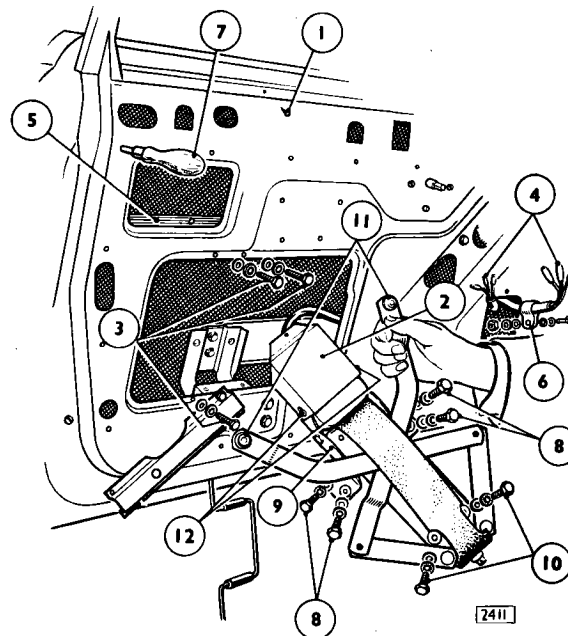

Fig. 65. Removing the regulator.
Lower the window to the fully open position and remove the self-tapping screw (1) Fig.65, securing the regulator motor support bracket (2) to the window sill fold in the outer door panel.